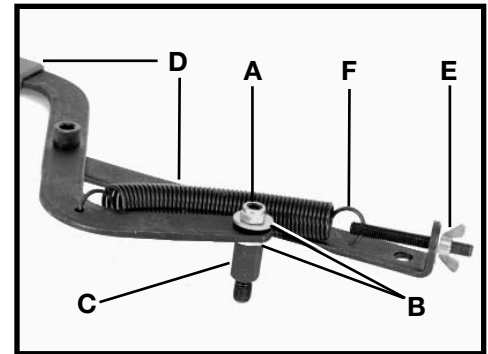

Fig. 38
1. Loosen and remove hex nut (A) Fig. 38, two flat washers (B) and stud (C) from handle assembly (D). **IMPORTANT:** Remove wing nut (E) to loosen one end of spring (F).